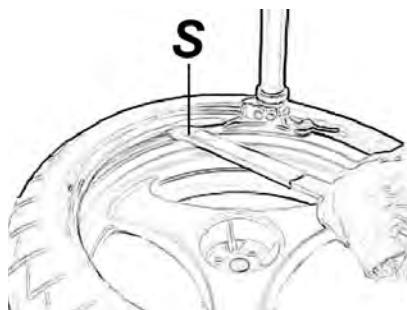

Fig. 4.3-1
- After installing the bottom bead, inserts the tire tool to the left of the bead head as shown (Fig. 4.3-1). To protect decorative rims use protective sleeve #EAA0247G04A (**S**).